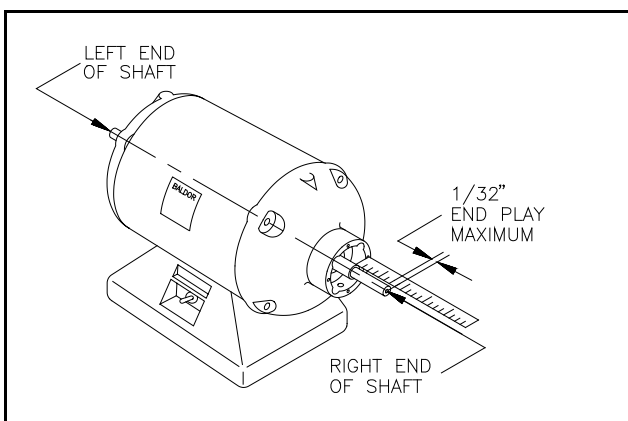

Figure 7. Shaft end play
- 4.2 Temporarily attach the adapter with two 10-32 x 1/2 screws. Put a folded shop towel in the palm of your hand a push firmly (50 lbs. force) on the left end of the shaft while measuring the protrusion of the right end. See Figure 7. You may need an assistant to push the shaft while you measure.